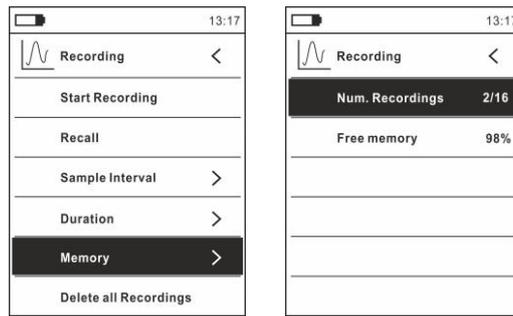

Fig. 41: Data logger function – Content of the memory
23. Select item “Memory” (see Fig.41 – left side) and press key ▶. The screen in Fig.41 – right side appears on the display